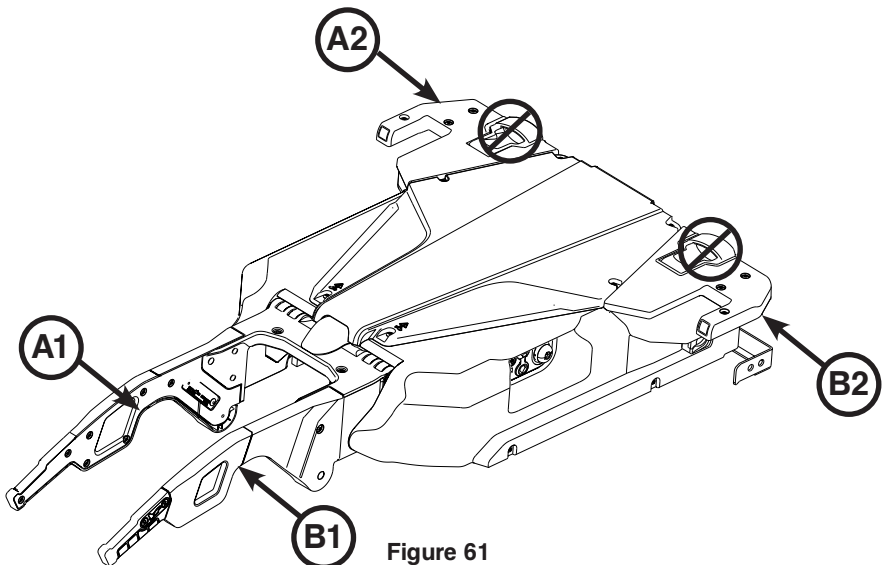

Figure 61
- Carefully lift the trolley assembly by its arm and wing. Do not lift the trolley by the manual cot release handles. Lift only where indicated. Installer 1, position hands at A1 and A2. Installer 2, position hands at B1 and B2 as shown in Figure 61. Move the trolley toward the head end until it is off of the transfer. Remove the trolley from the anchor. Place the trolley in a suitable work area.